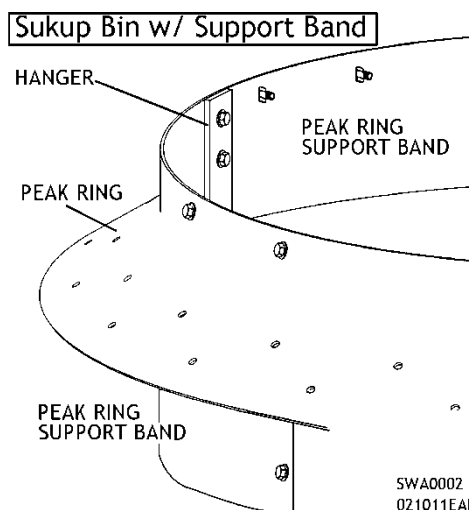

Fig. 31 - Preparing machine for hanging
- 81 Bolt hangers to peak ring support band. See Fig. 31.